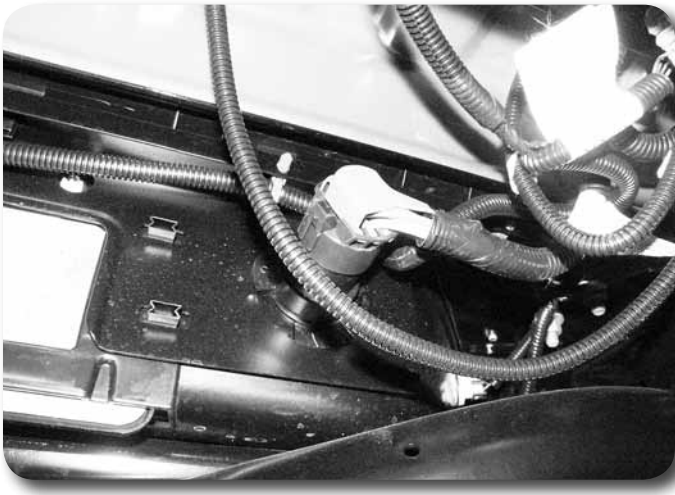

Figure 28
3. If equipped, disconnect the trailer wiring connector from the bumper **Figure 28**.